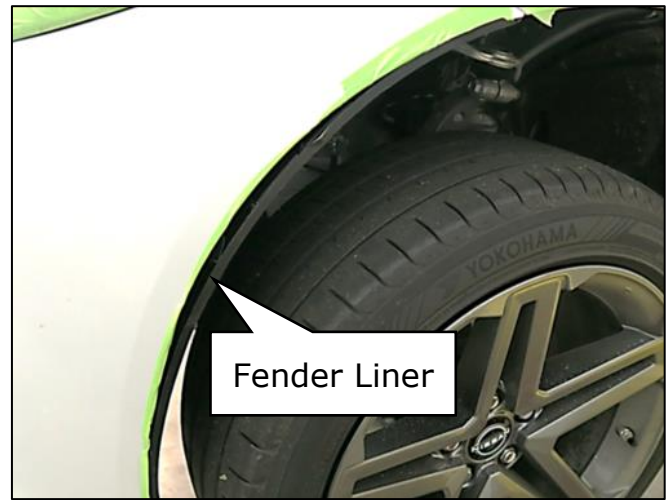

Figure 17
14. Carefully move the inner fender liner to the outside of the bumper cover as shown in Figure 17.